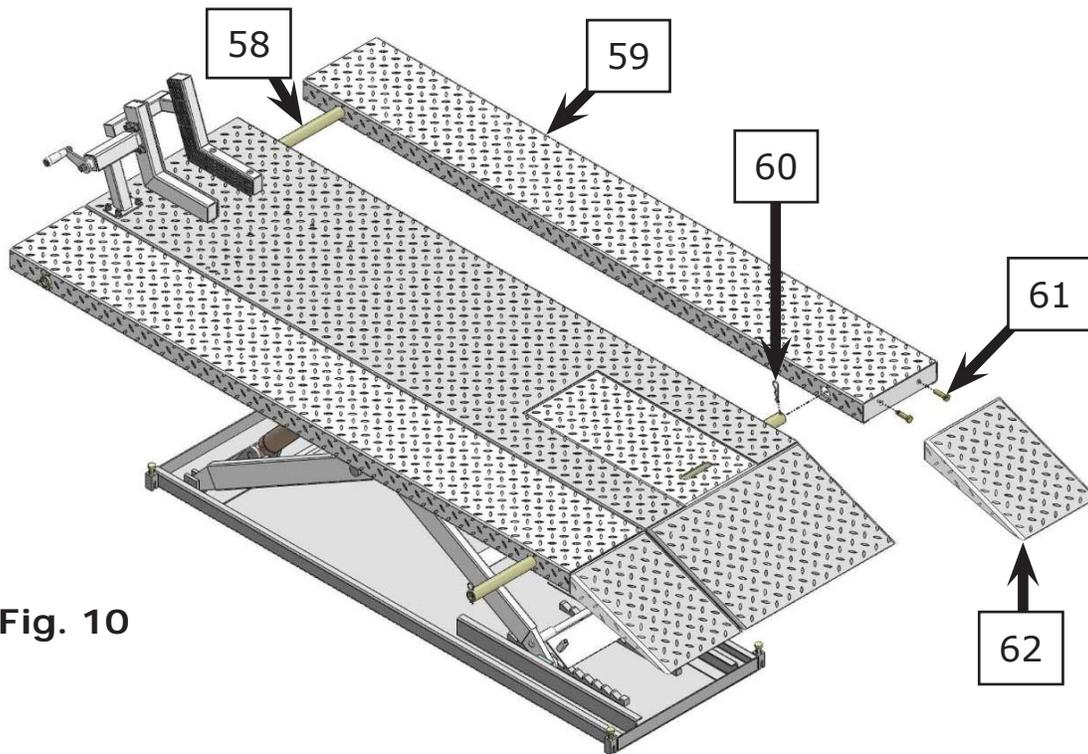

Fig. 10
F. Install optional width extension kit. (See Fig 10)